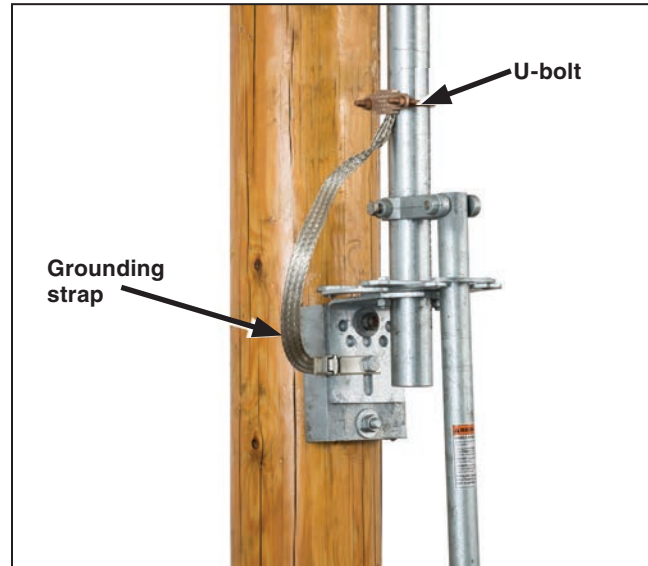

Figure 23. Attach the grounding strap.
STEP 19. Fasten the free end of the grounding strap to the lowest pipe section a few inches above the operating handle assembly (or key interlock) with the U-bolt connector provided for this purpose. See Figure 23. Connect the lower end of the strap to a suitable earth ground, using the grounding connector provided at that end of the strap.